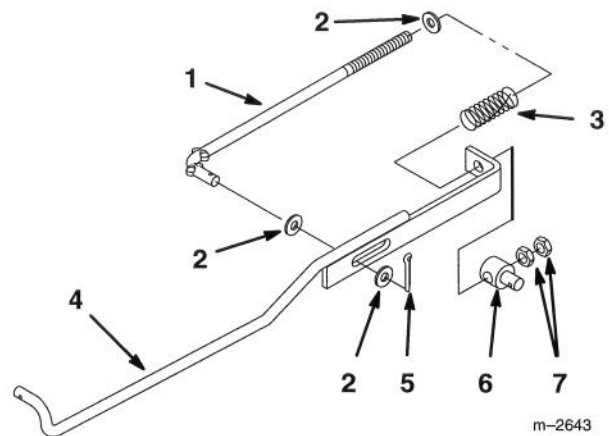

**Figure 1**
4. Remove brake support bracket from transaxle and slide existing brake disc off shaft (Fig. 1).
5. Clean cavity for brake pad and install new brake pad in transaxle case (Fig. 1).
6. Slide new brake disc onto shaft (Fig. 1).
7. Remove brake pad from brake support bracket (Fig. 1).
8. Place metal plate and new brake pad in brake support bracket (Fig. 1).